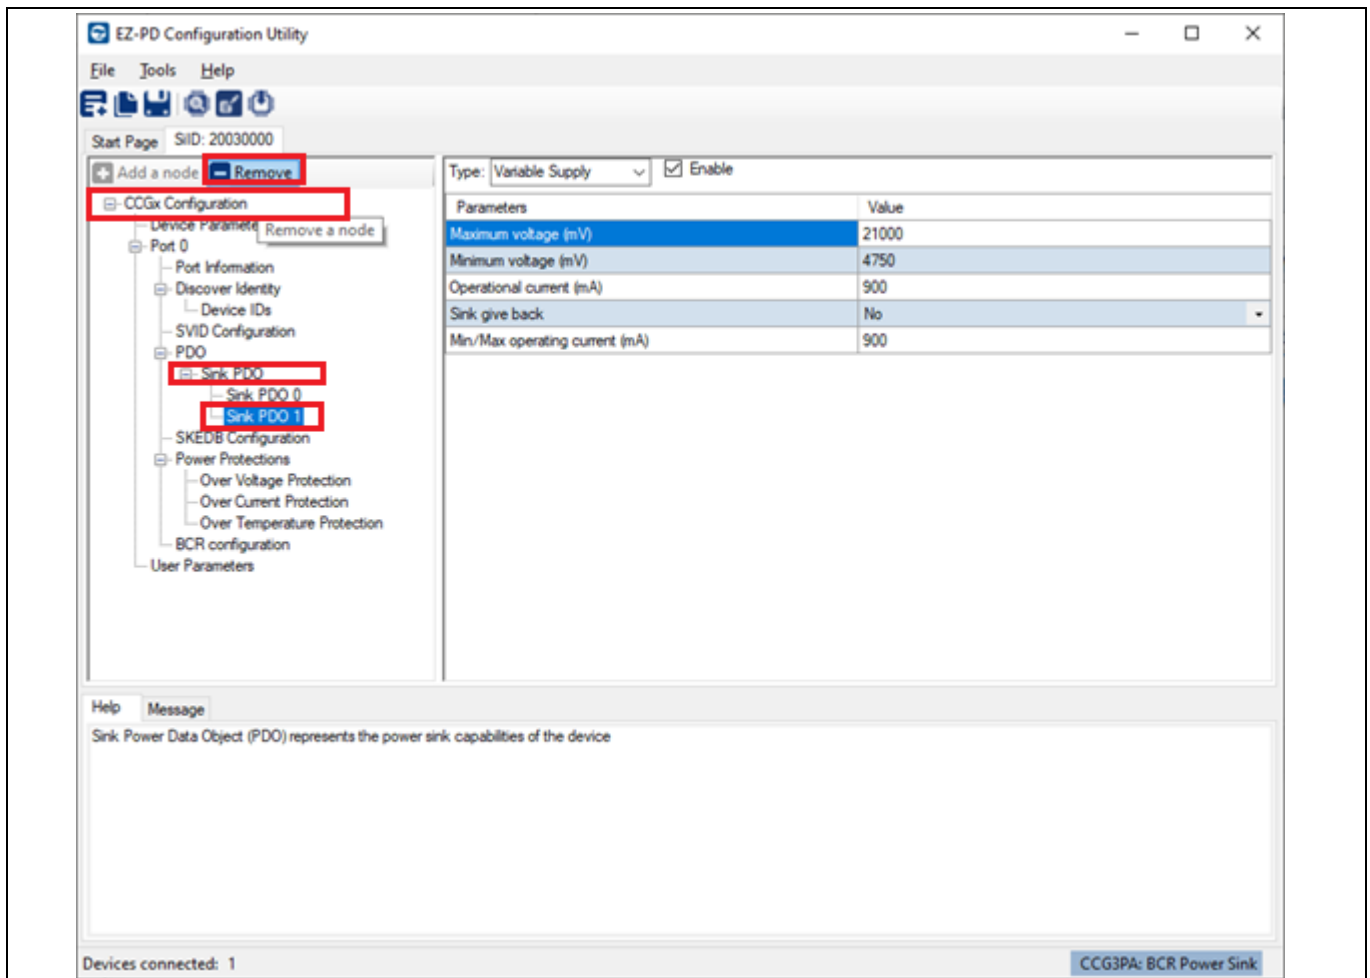

Figure 17 Removing the sink variable PDO#2 from the configuration table
9. Select **CCGx Configuration > PDO > Sink PDO** and remove the **Sink PDO 1** from the configuration table by clicking on the **Remove** button as shown in **Figure 17**.